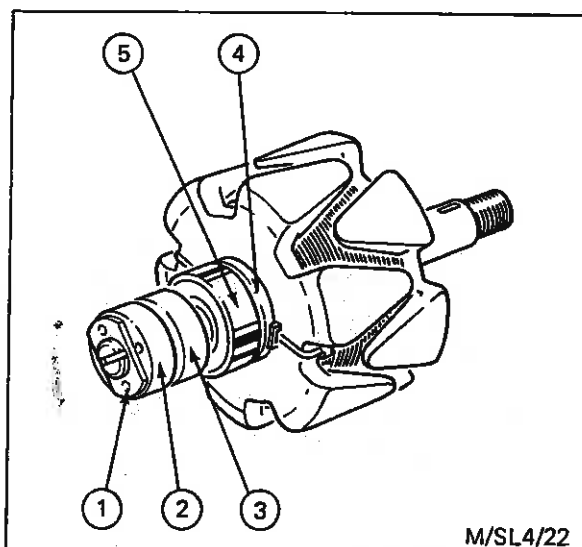

Fig. 35 - Slip Rings and Bearing Renewal - A115 and A133 Alternators
Unsolder the field winding connection (1) from the outer slip ring (2) - see Fig. 35.